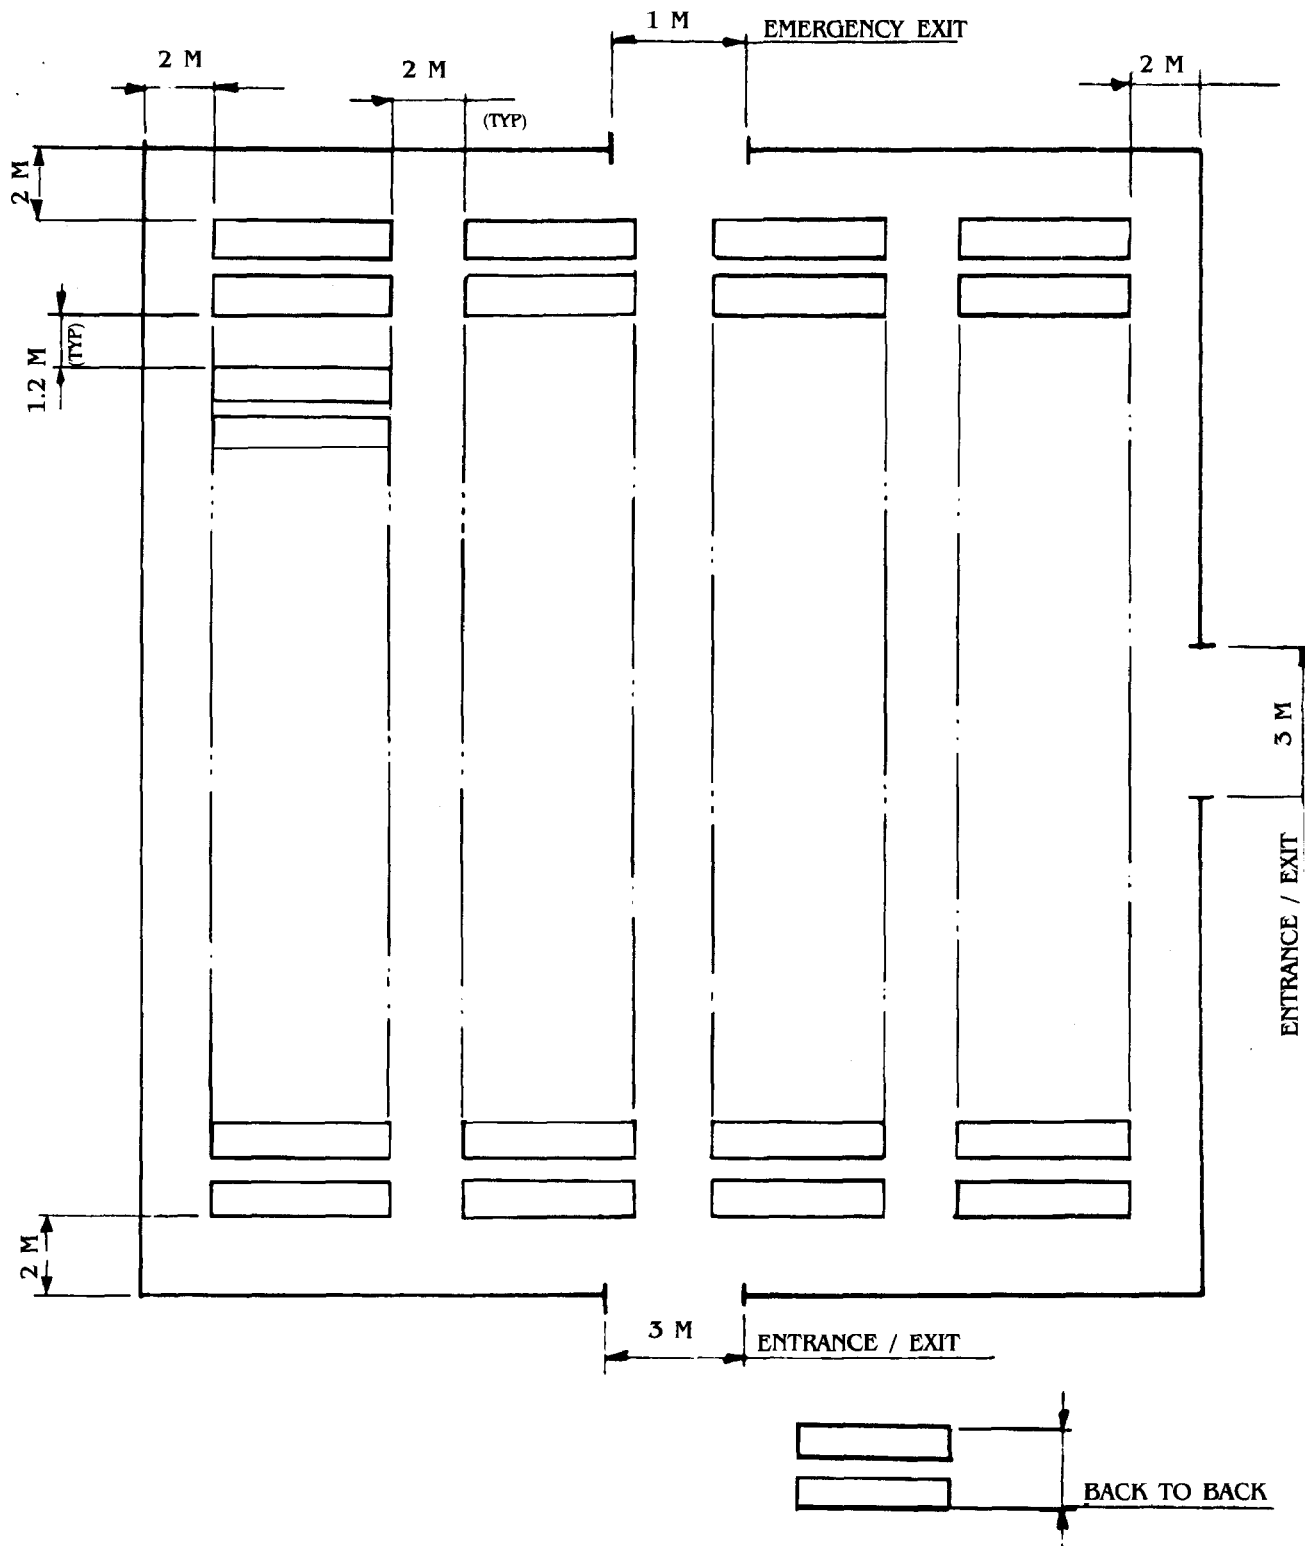

Fig. 22 LAY-OUT OF STORE
- 1) The bulk carrying cases have to be arranged as shown in Fig. 22 (LAY-OUT OF STORE). They can be kept back to back as shown in Fig. 22.